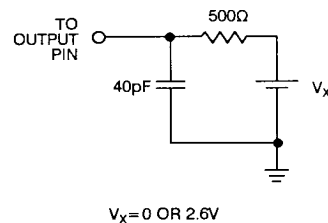

Figure 2. Output Three-State Delay Load
1. Transition is measured $\pm 500\text{mV}$ from steady state voltage with loading specified in Figure 2.
3. See Test Load Figure 2.